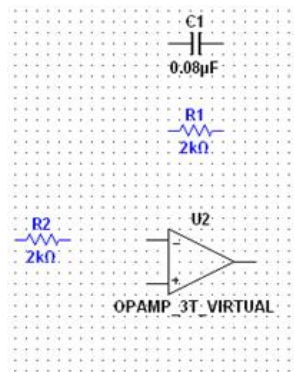

Figure 5. Your Design at the End of Stage 1
1. Your design should look like the Figure 5 now.